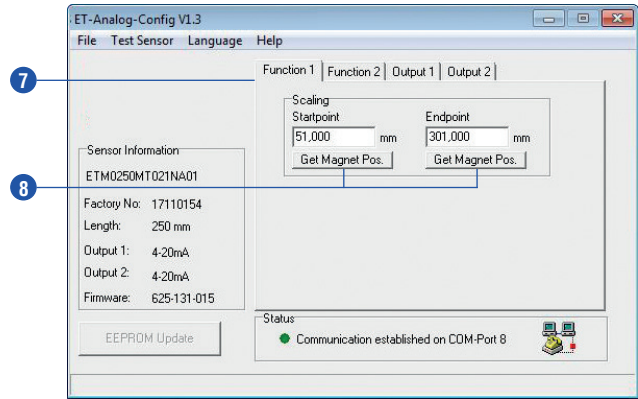

Fig. 34: Dialog field with tabs
- 7 Determine the measuring range with **Startpoint** and **Endpoint** via tab **Function 1** (Fig. 34).
- 8 The current magnet position can be stored via buttons **Get Magnet Pos..**. The measuring direction changes, when the value of the **startpoint** is higher than the value of the **endpoint**. Independent of the measuring direction, the minimum measuring distance is 25 mm (Fig. 34).